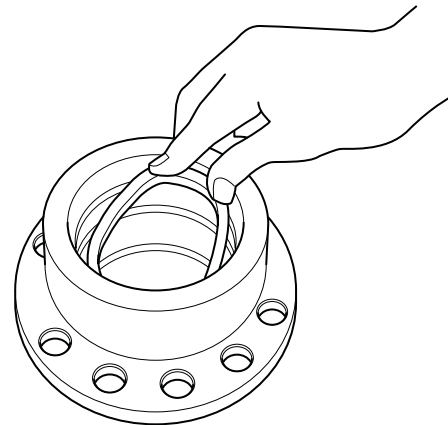
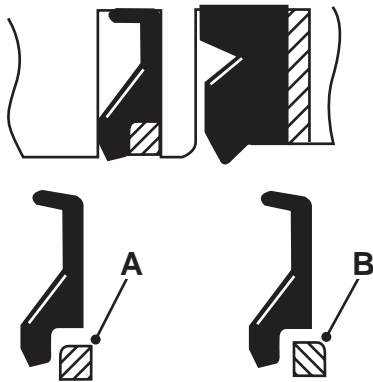

Fig 88.
Fig 89.
- 4 Fit the buffer ring into its seat in the cylinder head → Fig 88. (E-198). Fit back up ring after putting the buffer ring in place ensuring correct orientation. **A** is correct **B** is incorrect. → Fig 89. (E-199).